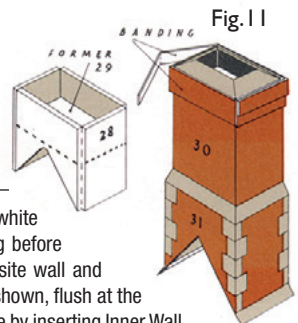

Fig. 11
- 10 around a Chimney Former 29 set no lower than the dotted line printed on the outside. Make the bending cuts, cut out and glue to shape a Chimney Stack 30 and insert it in the Base. Tuck in the bent black and grey portions until the mitred corners meet. Apply Chimney Base Covering 31 with the sloping bottom edges set just a little below the corresponding edges of the Base for a close fit when attaching the Roof. Apply the Banding (Fig. 11).